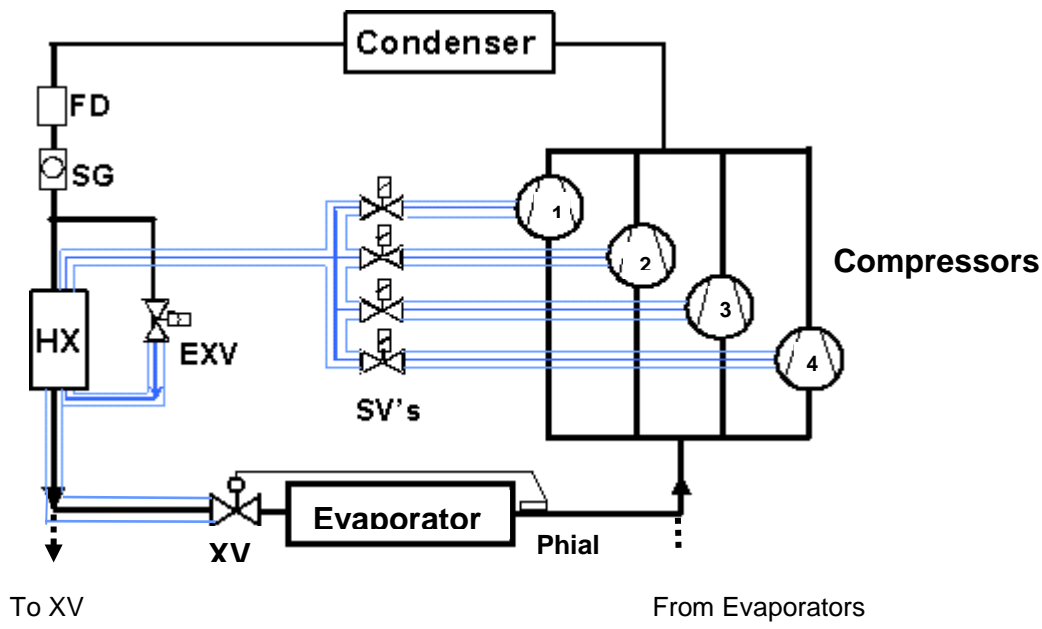

Figure 6: Arrangement for multiple compressors using one heat exchanger (HX)
Multiple VI compressors can share one subcooler (HX) and Electronic Expansion Valve (EXV) as shown in Figure 6. Solenoid valves must be fitted to the individual vapour injection lines to close when the compressor is switched off. This is to avoid excessive quantities of liquid entering the compressor during standstill.
The expansion device used in conjunction with the subcooler HX may be a TXV or an electronic expansion valve (EXV). A solenoid valve should be added if the expansion device does not completely close. This is to avoid liquid migration to the compressor during the off cycle. The solenoid valve may be in the liquid line or the vapour line. A liquid line position is usually preferred because the valve is smaller but a vapour line installation will be necessary if multiple compressors are used in parallel as shown in Figure 6.